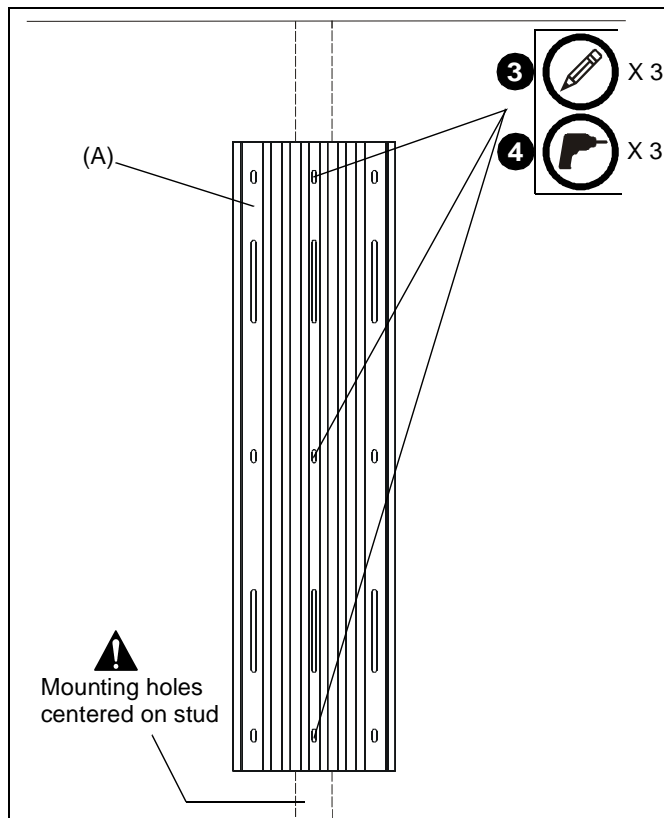

Figure 24
3. Align the middle mounting holes on mount with stud making sure mounting holes are centered on stud. (See Figure 24)
4. Using wall track accessory (A) as a template, mark location of three mounting holes on wall. (See Figure 24)